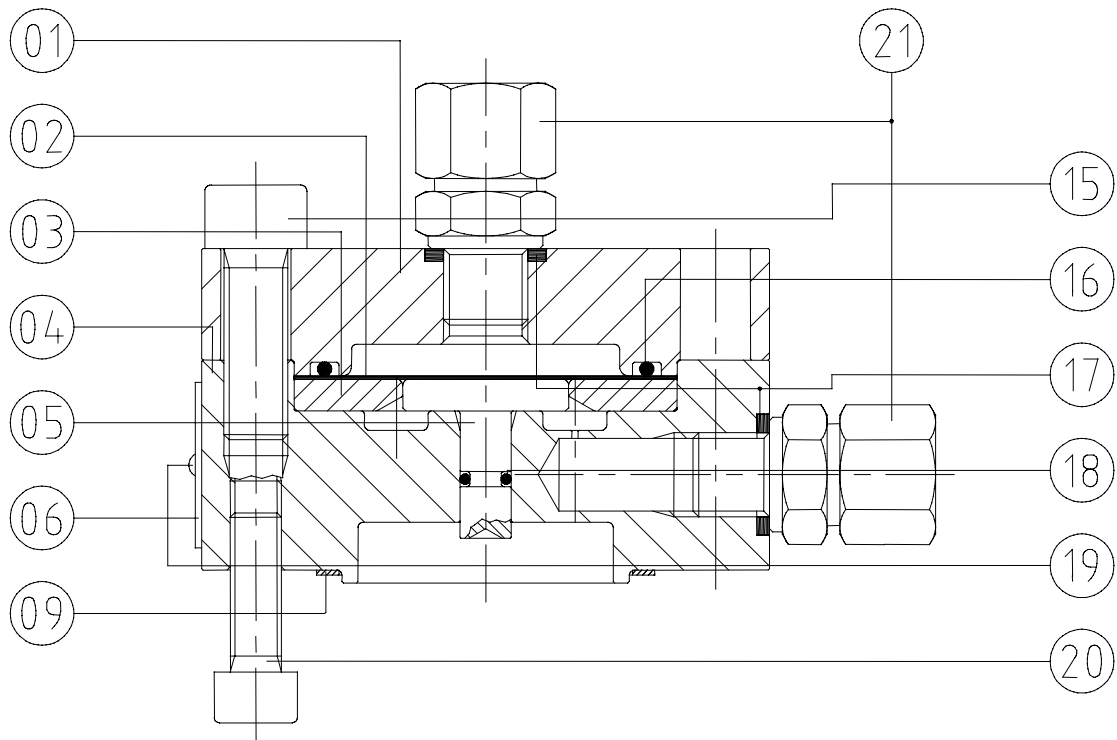

Figure 6: Pressure converter SM1.x-A
(see figure 6)
- Disconnect impulse line (pos. 21 in fig. 6).